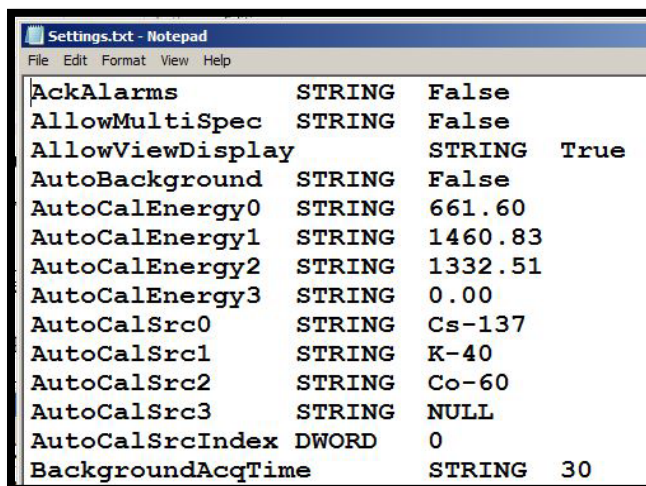

Figure 107. Partial Contents of Typical Settings.txt File
- Figure 107 shows the partial contents of a **Settings.txt** file. The contents can be viewed by connecting a PC to the micro USB connector on the rear panel (see Figure 5 or Figure 6). Simple changes can be made with a text editor if necessary.